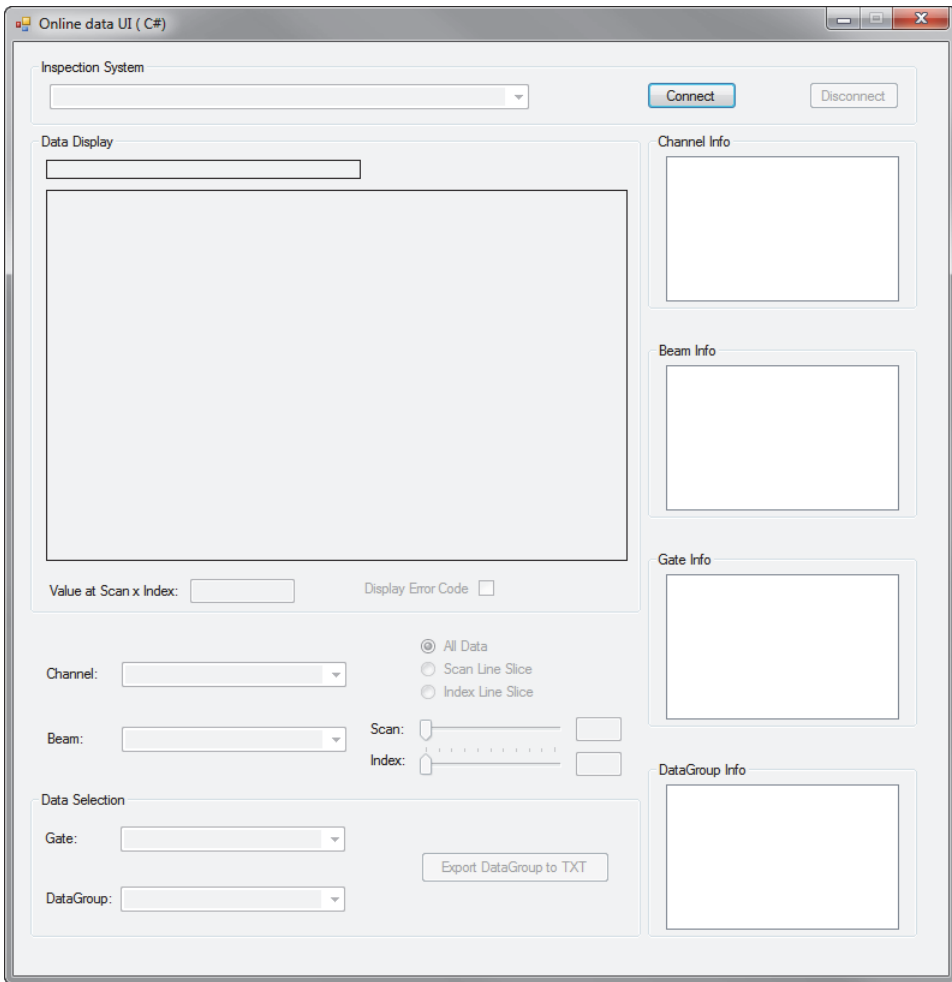

Figure 4-5 The Online Data UI main window
3. In the **Online Data UI** window, click **Connect** (see Figure 4-5 on page 74).